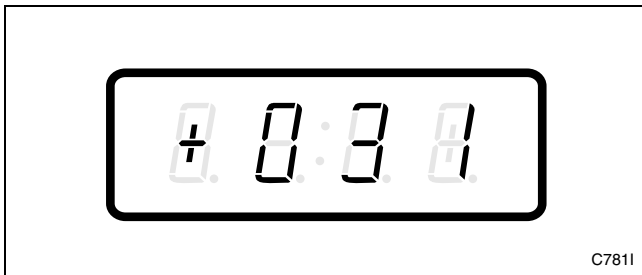

Figure 124
3. Press the DELICATES (+) or the COLD (-) keypad to scroll through the programmable options until “+031” appears in the VFD. Refer to *Figure 124*.